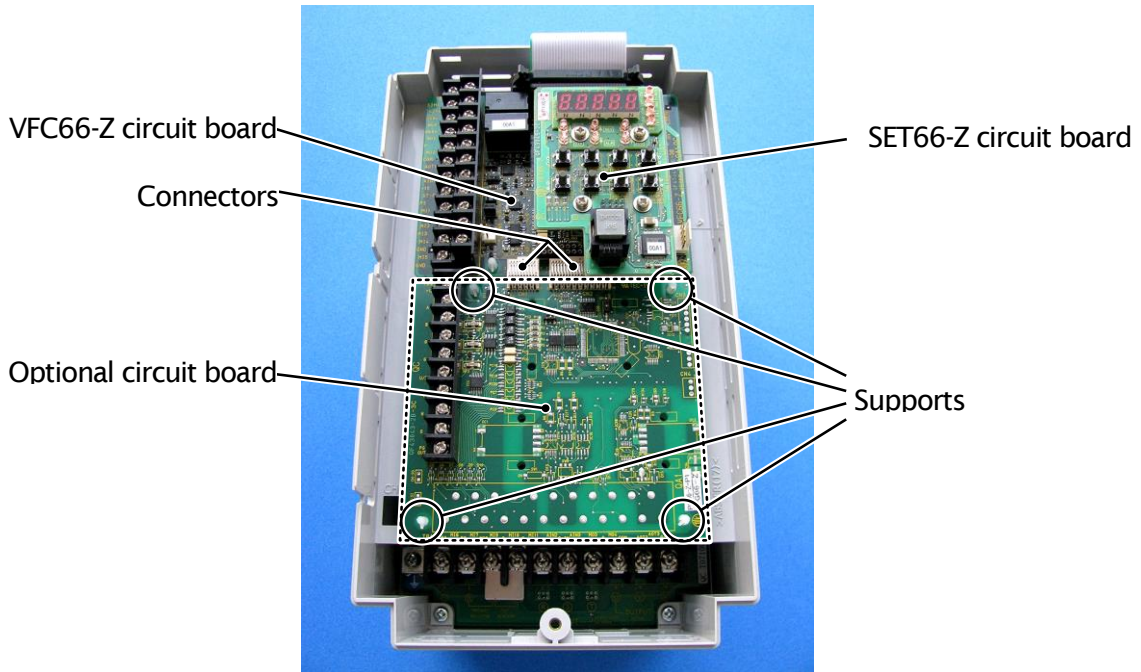
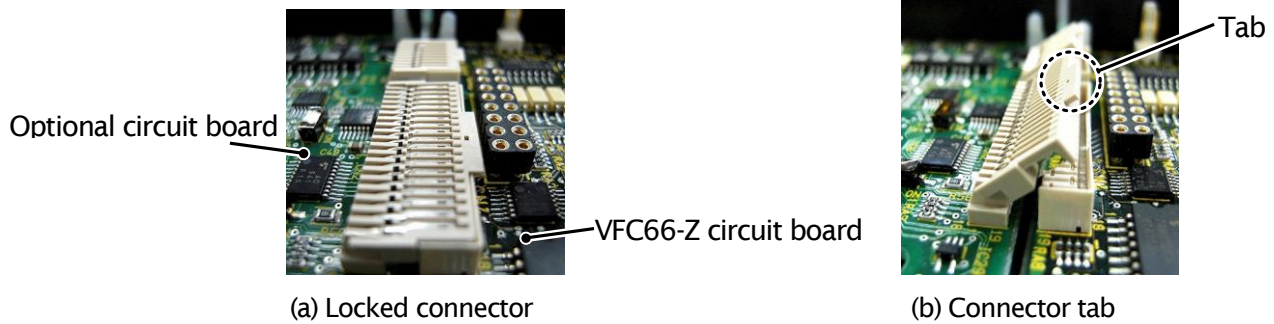
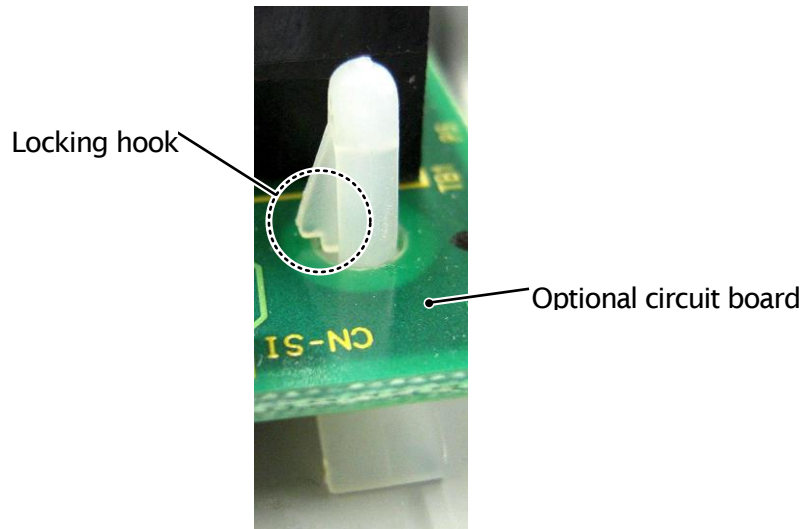

Figure 3.2 Optional circuit board installation position (VF66B-2R222)
Figure 3.4 Connector
Figure 3.5 Support locking hook
- (1) Confirm that the power is off before performing any work.
- (2) Install the OPCN66-Z board in the location designated by the dotted lines shown in Figure 3.2. (The figure shows the VF66B-2R222 model, however, the installation location is the same for other models.) If another optional circuit board is already installed, remove it by following the procedure described below. If another optional circuit board is not already installed, skip to (6).
- (3) In order to safely remove the optional circuit board, first remove the SET66-Z board. Remove the 4 screws indicated by the circles in the figure on the right. Pull the SET66-Z board away from the VFC66-Z board in order to detach it.
- (4) Next, release the two connectors between the VFC66-Z board and the optional circuit board. Figure 3.4 (a) shows the connector in its engaged position. Pull up the tab to release the connector as shown in Figure 3.4 (b).
- (5) 4 board supports are included to mount the optional circuit board to the inverter housing, as indicated by the circles in Figure 3.2. Press down on the board support locking hooks as shown in Figure 3.5 to remove the optional circuit board.
- (6) Align the four holes of the OPCN66-Z board with the 4 board supports indicated by the circles in Figure 3.2. Push down on the board until the support locking hooks snap into place as shown in Figure 3.5.
- (7) Align the tabs (shown in Figure 3.4 (b)) of the OPCN66-Z board connectors CN1 and CN2 with the VFC66-Z board connectors CN7 and CN4. Press down on the tabs to engage with the connectors. Once the connectors are correctly joined, it will look like Figure 3.4 (a). The movable part of the connector has some elasticity and if the joint is weak, it may become disconnected. Ensure that it is properly locked in place.
- (8) Install the SET66-Z board to its original position.
- (9) Return the front cover to its original position.